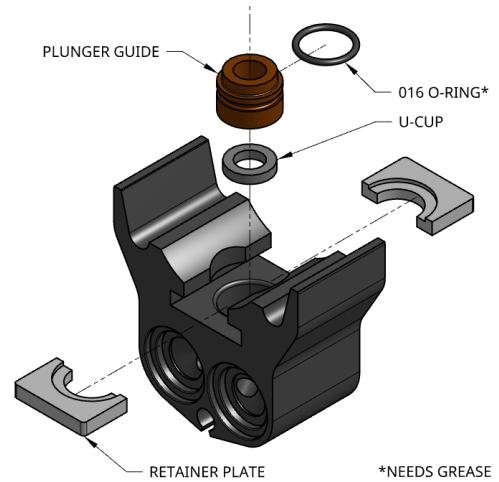

Figure 3
3. Clean the head with a rag or towel. Inspect for damage or excess corrosion. If the head is damaged, do not rebuild. See video or Fig. 3 for correct placement and orientation.